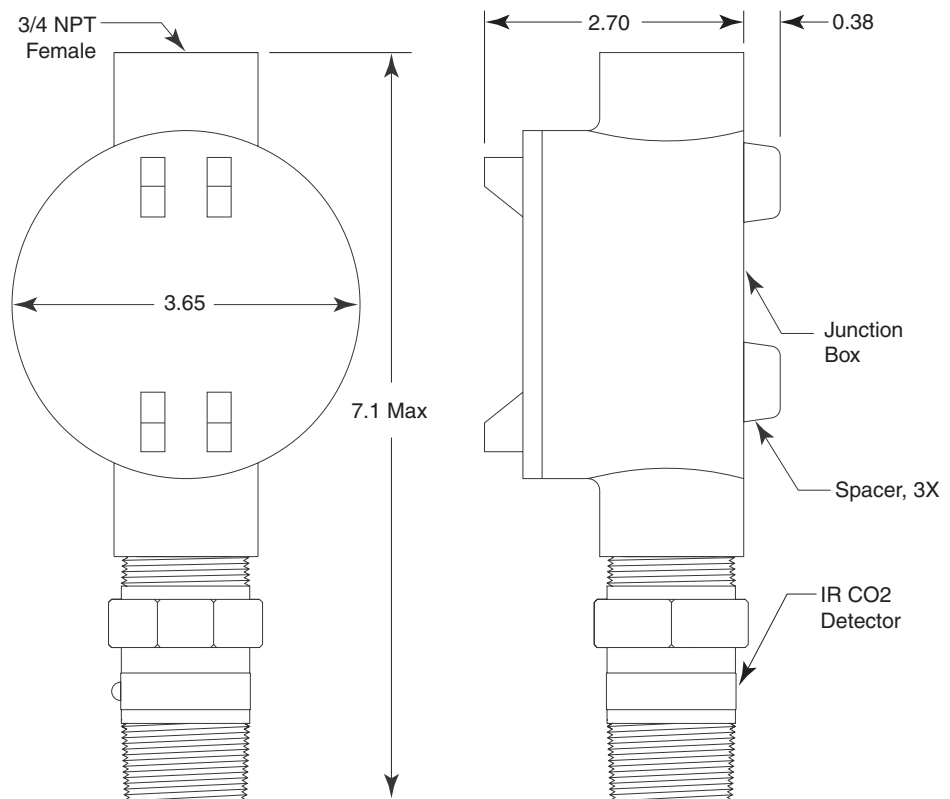

Figure 1: Mounting the CO₂ Detector
2. At the mounting site you select, hang or mount the junction box with the detector facing down (see Figure 1).